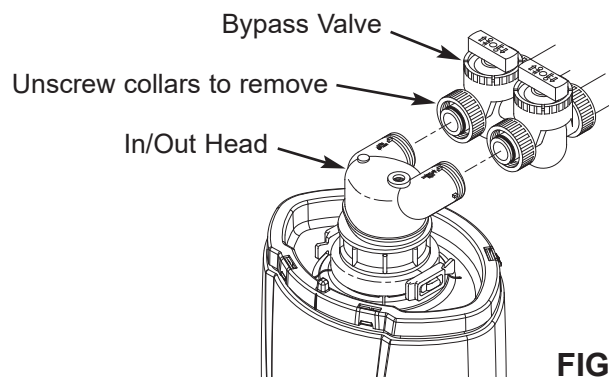

FIG. 9
3. Slowly loosen the installation collars between the bypass valve and in/out head (See Fig. 9), allowing pressure to escape from system.